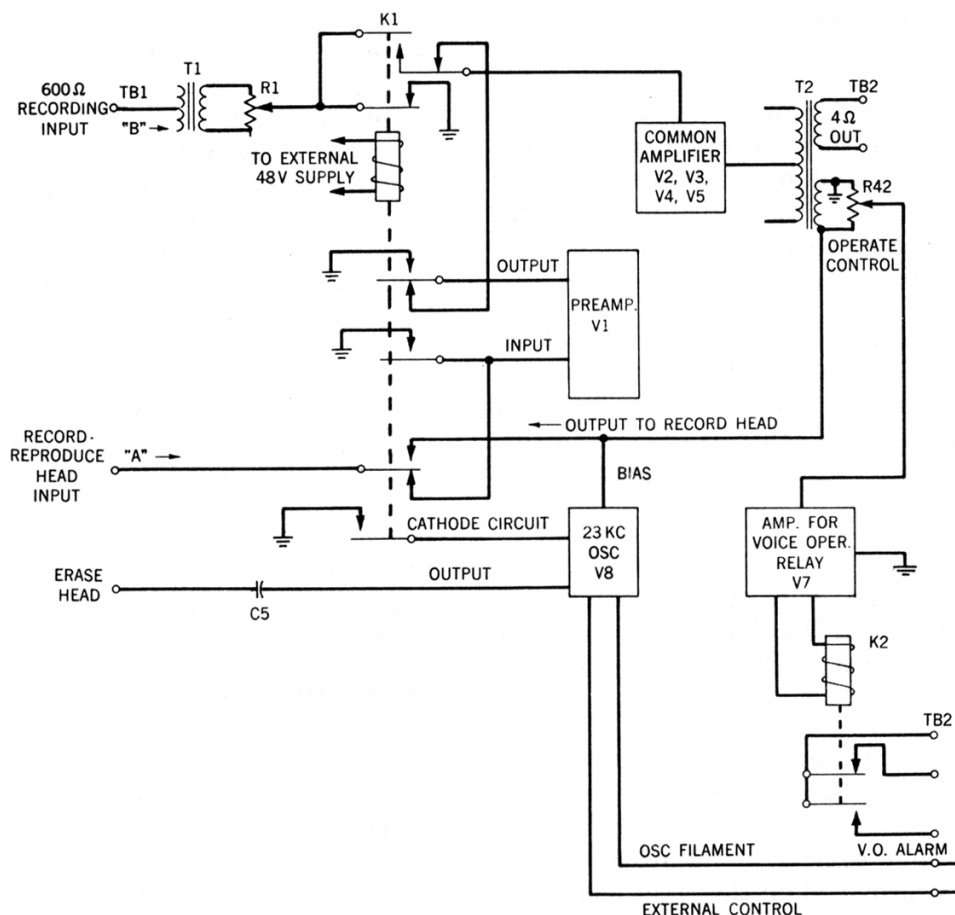

Fig. 3 – Simplified Schematic of Amplifier
5.02 During the reproduce cycle, as shown in Fig. 3, relay K1 is released. The input signal "A" is fed through the relay contacts to the preamplifier. The output of the preamp is connected to the common amplifier through contacts of the K1 relay. During the reproduce cycle, the K1 relay also provides grounds to the record channel to prevent interaction between it and the reproduce channel. The relay also disables the oscillator by opening the cathode circuit of the electron tube.
5.03 An equalizing network consisting of resistors and capacitors (not shown in Fig. 3), is provided in the plate circuit of the preamplifier to boost the low frequency response and compensate for the recording characteristic. These components are connected to terminals No. 1 and 5 of terminal board TB6. The amplifier is normally provided with the equalizer in the circuit.
5.09 Machines which make use of the bulk erase method do not require the oscillator for erase current. Hence, a lower output from the oscillator is frequently desirable. In these situations the strap between terminals No. 2 and 3 of TB5 should be removed. This disconnects R3 from the circuit (not shown in Fig. 3).
5.11 The voice-operated relay circuit consists of relay K2, electron tube V7 and associated components. One section of V7 is connected as an amplifier with the relay connected in its plate circuit. When no signal is delivered by the common amplifier, the plate current of V7 is adjusted to a value less than the operate point of the relay by the release control R43 (not shown in Fig. 3). During recording and reproducing, a signal from the feedback winding of the output transformer is applied through the operate control R42 to the grid of V7. The second section of V7 rectifies the output of the first section of V7 and develops a dc potential of the proper polarity to drive the amplifier grid in a positive direction. This increases the plate current and causes the relay to operate. When the signal is reduced 4 db, the relay will release in about 11 seconds.